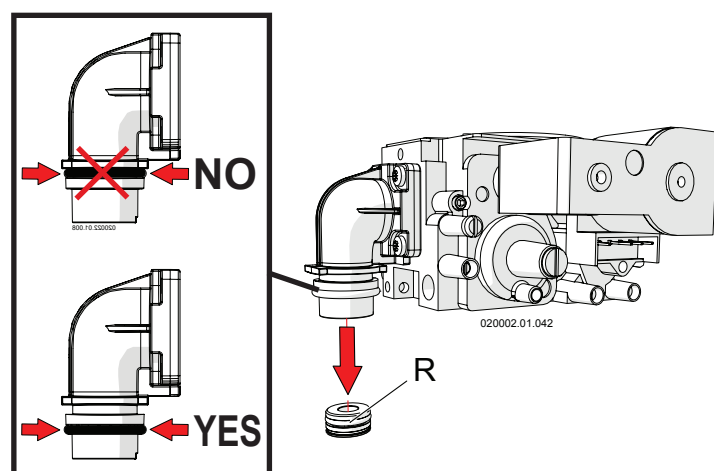

Figure 6-4 – Replacing the gas nozzle
10. - Replace gas nozzle "R" (see figure 6-4) with an appropriate one according to figure 6-6 under "Gas nozzle diameter";